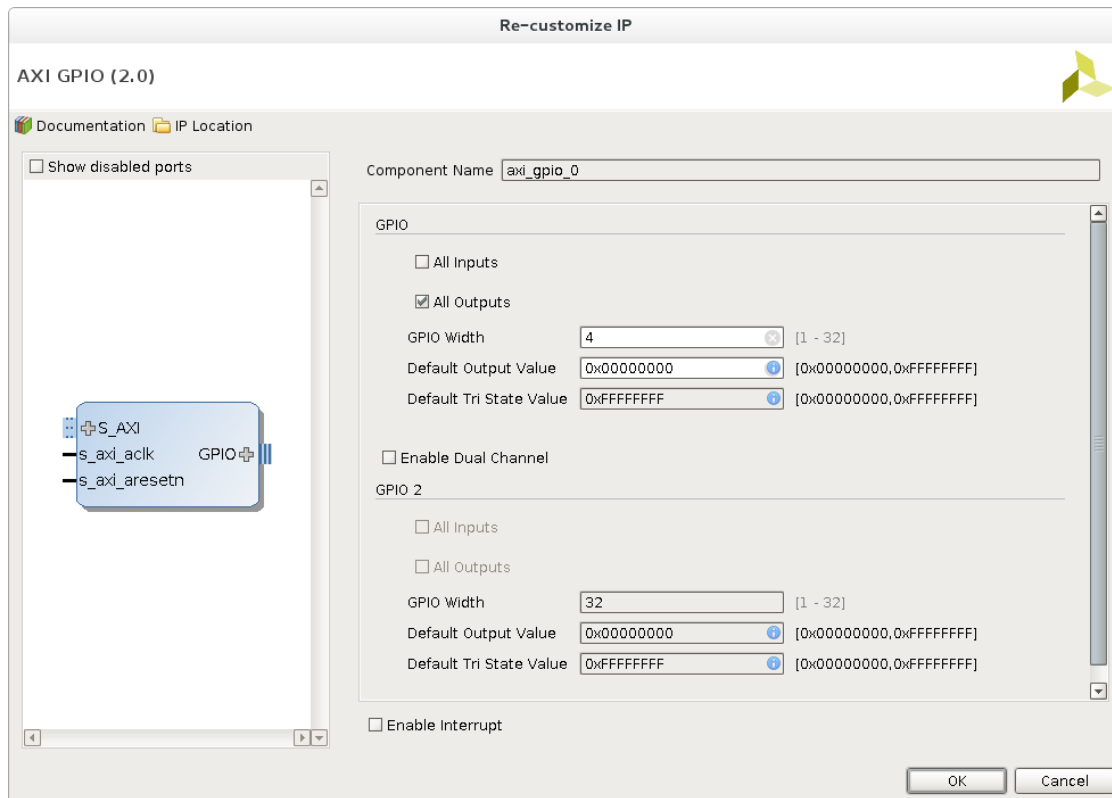

Figure 9: Customize GPIO
- (g) The processor is set up, now we need to add a General Purpose IO (GPIO) block to interact with LEDs on the Zybo Z7-10 board. Right click and select 'ADD IP'. Search for 'GPIO' and select 'AXI GPIO' to add it to the design. Double click on the GPIO block named 'axi_gpio_0'. Set the following configuration for the GPIO and click 'OK' (Figure 9).